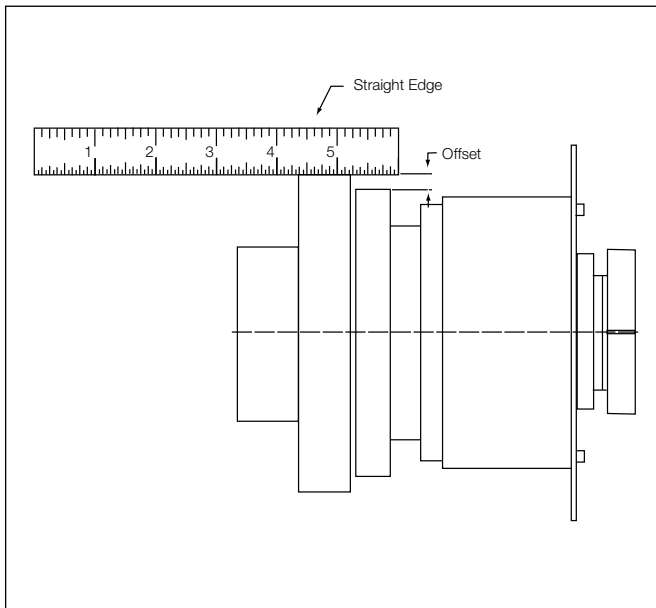

Figure 10 – Parallel “C” Coupling Alignment
- a. Place a straightedge across the coupling flange and adapter as shown in Figure 10.